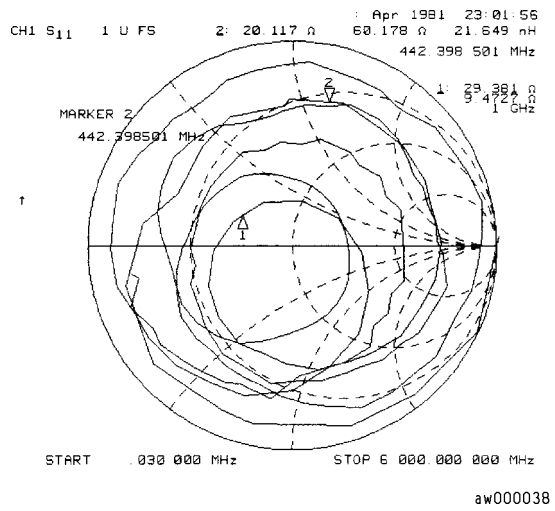

Figure 7-20. Example Impedance Measurement Trace
- 2 Press **MARKER FCTN**, *MARKER MODE MENU*, *SMITH MKR MENU*, and turn the front panel knob to read the resistive and reactive components of the complex impedance at any point along the trace, as shown in Figure 7-20. This is the default Smith chart marker.
- 2 Press **MARKER FCTN**, *MARKER MODE MENU*, *SMITH MKR MENU*, and turn the front panel knob to read the resistive and reactive components of the complex impedance at any point along the trace, as shown in Figure 7-20. This is the default Smith chart marker. Press *G+jB MKR*.